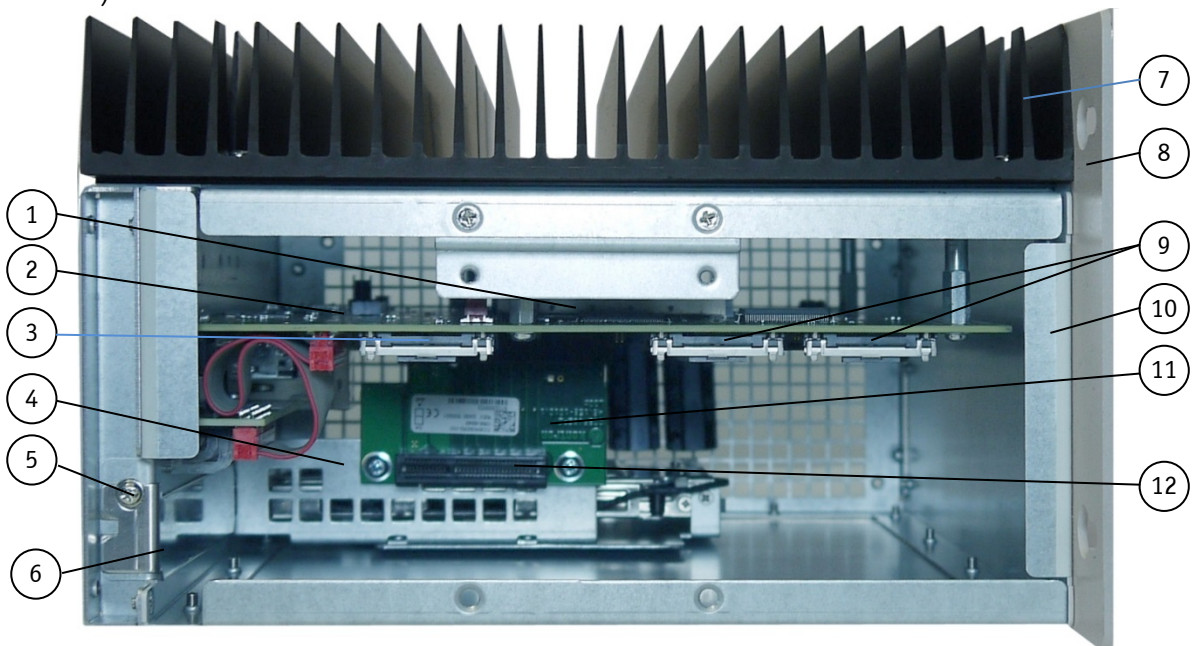

Fig. 62: Inside of the KBox C-101-1 (shown with a removable HDD)
Please observe that for KBox C-101-1 only one PCIex4/PCIe x1 expansion card can be installed into the available PCIe x4 socket of the riser card (Fig. 62, pos. 11 and pos. 12).